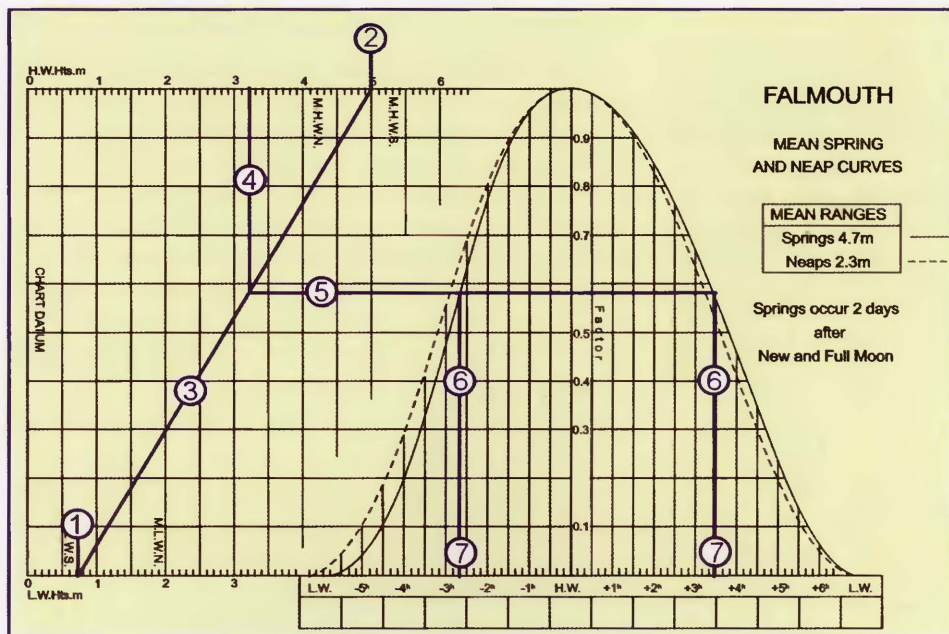

Fig 71
tide tables - which in this particular instance shows that Low Water is 0.7m and High Water is 5.0m, at 1049UT and 1630UT respectively - the first step in the tidal calculation is to mark the height of Low Water on the Low Water scale, and the height of High Water on the High Water scale, and to join the two with a straight line (steps ①, ②, and ③ in Fig 71).
To cope with situations like this, a good set of tide tables will include a graph, like that in Fig 71 overleaf, for each of its standard ports. The right-hand side consists of two graphs,
Looking at the graph (Fig 71), and drawing a line upwards from 2h 40m before HW, we can see that it cuts the curve at a point corresponding to a factor of about 0.58 (reading from the Factor scale running vertically up the middle of the graph).